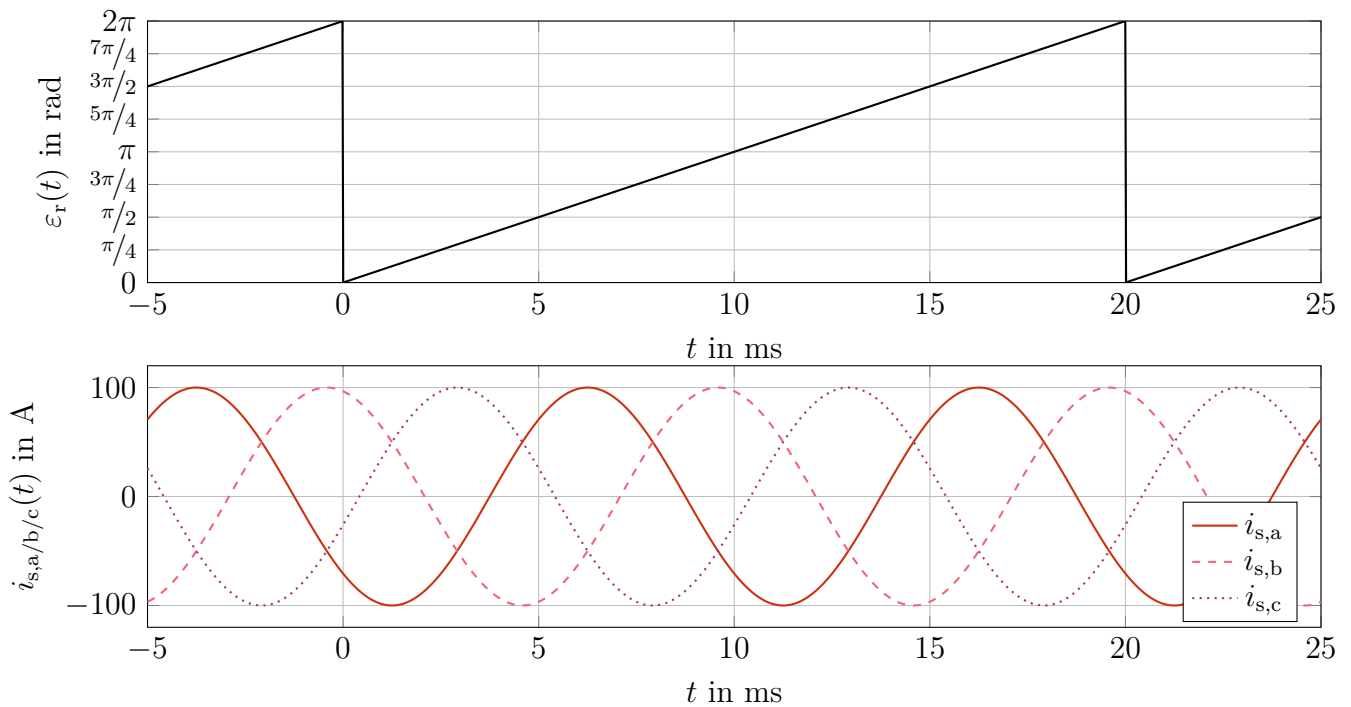

Fig. 4: Measured mechanical rotor angle $\varepsilon_r(t)$ and three-phase stator currents $i_{s,a}(t)$, $i_{s,b}(t)$, $i_{s,c}(t)$.
Fig. 4 shows the mechanical rotor angle $\varepsilon_r(t)$ and the three-phase stator currents $i_{s,a}(t)$, $i_{s,b}(t)$, $i_{s,c}(t)$ of a permanent magnet synchronous motor (PMSM). The rotor angle sensor is aligned for $\varepsilon_r = 0$ with the a -phase winding current vector. Assume steady-state operation (constant speed) and a symmetric star-connected stator (zero-sequence-free currents). The PMSM parameters are given in Tab. 2. Neglect iron losses, friction/windage, and converter losses. Consider only stator copper losses via R_s .
4.1 Determine the pole pair number p as well as the mechanical and electrical rotational frequencies f_r and $f_{r,el}$ from Fig. 4. [3 Points]
4.2 Determine the electrical load angle θ from Fig. 4, i.e., the angle between the rotor flux linkage and the stator current space vector. [2 Points]
From Fig. 4 it can be seen that the current period is leading the mechanical period by approximately 3.75 ms, which corresponds to an a mechanical angle of
Solution Fig. 3: Visual vector representation of the situation from Fig. 4